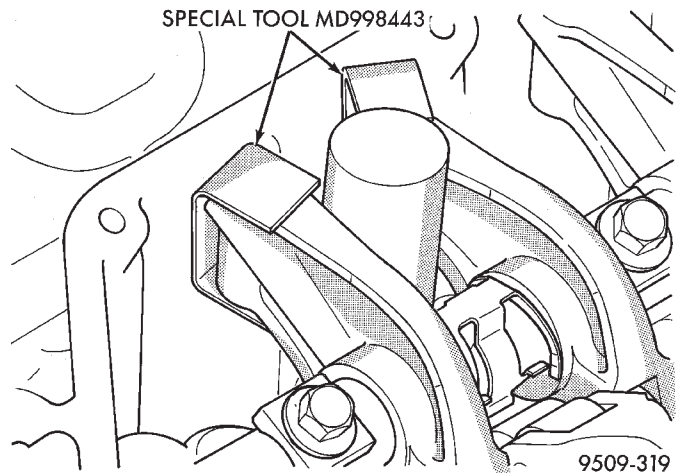
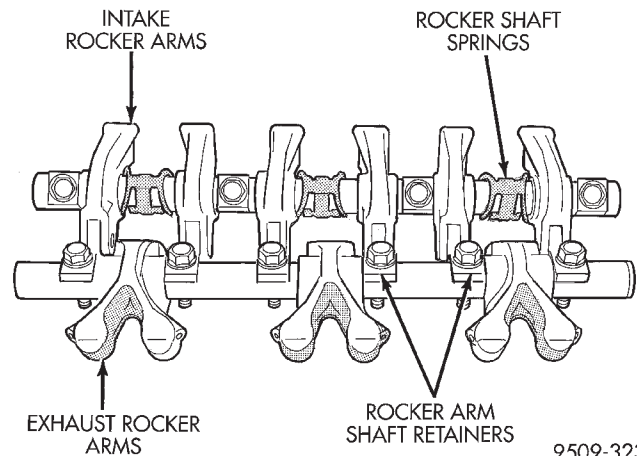

Fig. 35 Auto Lash Adjuster Retainers
Fig. 36 Rocker Arm Shafts
(1) Remove cylinder head cover using procedure outlined in this section.
(2) Identify the rocker arm shaft assemblies before removal.
(3) Install auto lash adjuster retainers, Special Tool MD-998443 onto rocker arms (Fig. 35). These retainers hold the lash adjusters into position when the rocker arms are serviced.
(4) Loosen the attaching fasteners. Remove rocker arm shaft assemblies from cylinder head.
(5) Mark rocker arm/hydraulic lash adjuster assemblies for reassembly in their original position. Remove rocker arm/hydraulic lash adjuster assembly. Lash adjusters are serviced as an assembly with the rocker arm (Fig. 36).
(1) Install rocker arm and shafts with the FLAT on the shafts facing the timing belt side of the right cylinder head (Fig. 37). For the left cylinder head, install rocker arm and shafts with the FLAT on the shafts facing the transmission side of the engine. Install the retainers and spring clips in their original positions on the exhaust and intake shafts (Fig. 36).